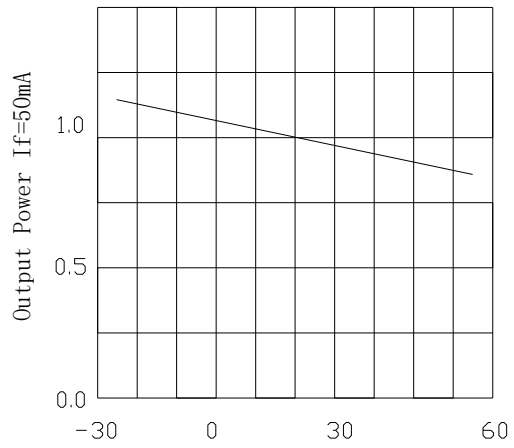

Fig.4 Relative Luminous Intensity VS. Ambient Temperature (°C)
- 4) When mounting the LED by using a case, as shown Fig.4, ensure that the mounting holds on the PC board match the pitch of the leads correctly-tolerance of dimensions of the respective components including the LED should be taken into account especially when designing the case, PC board, etc. to prevent pitch misalignment between the leads and board holes, the diameter of the board holes should be slightly larger than the size of the lead. Alternatively, the shape of the holes should be made oval. (See Fig.4)